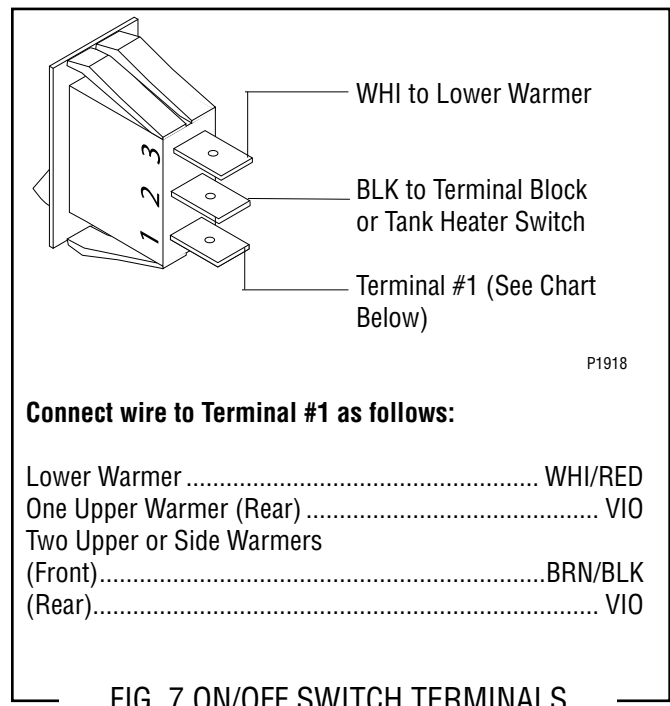

FIG. 7 ON/OFF SWITCH TERMINALS
6. Refer to Fig. 7 when reconnecting the wires.